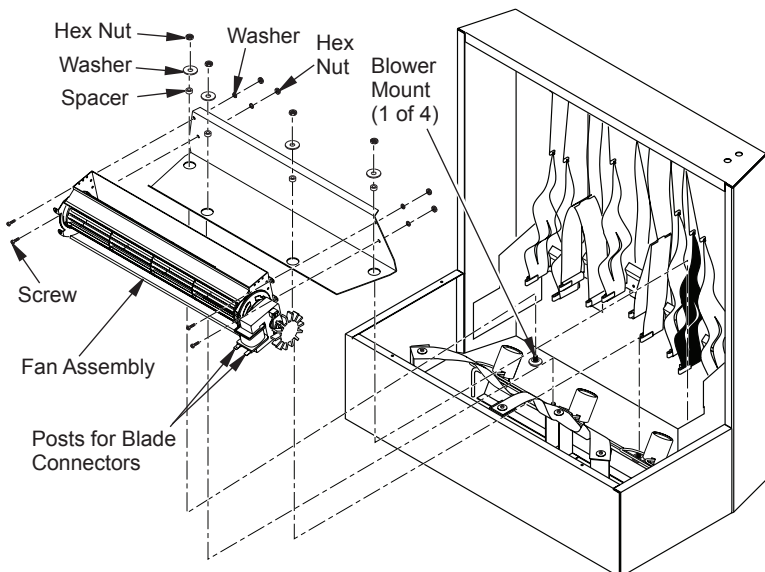

Figure 37 - Removing Fan Assembly (Shown without Firebox for Clarity)
4. Remove 4 hex nuts and washers located on blower mounts at base of cabinet (see Figure 37).